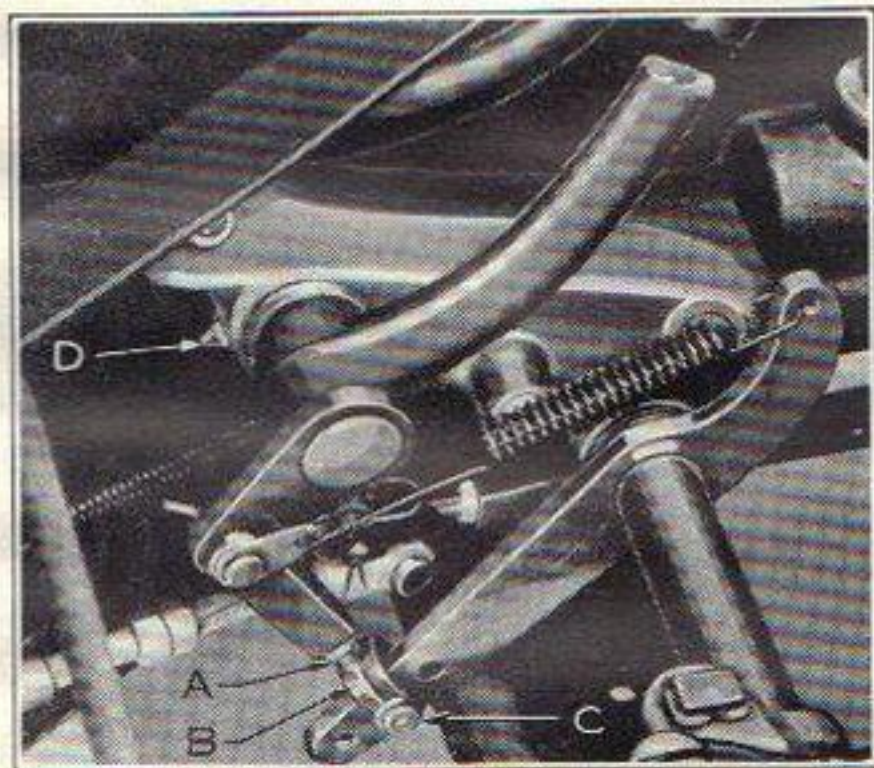

Figure 29
To adjust for proper clearance, loosen lock nut (A), Figure 29, remove cotter pin and clevis (C), turn yoke (B) to shorten or lengthen the rod, as necessary.
Every 1,000 miles fitting (D), Figure 29, should be lubricated with viscous chassis lubricant. This fitting is reached from beneath the car.